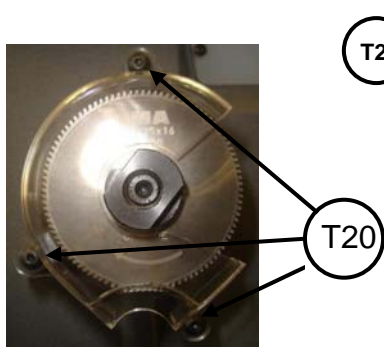

Fig.47
- 3) Unscrew the 3 screws (T20) holding the milling tool shield. (Fig.47)